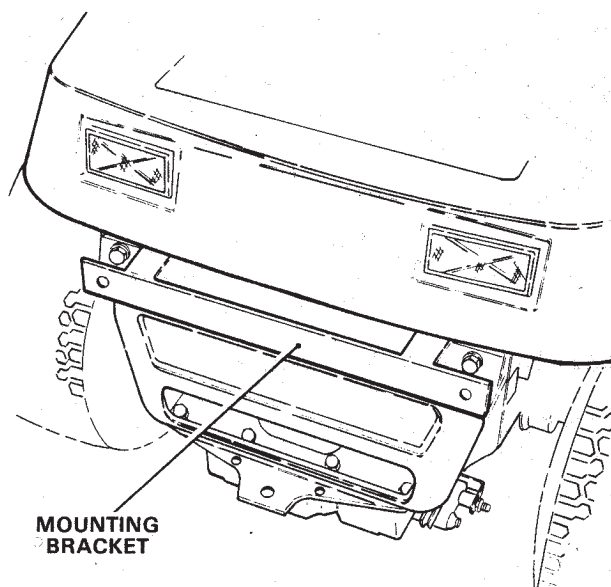

Figure 3
1. Secure mounting bracket (supplied with tractor) to rear frame with 2 capscrews (5/16 x 3/4 in.) and locknuts (Fig. 3).